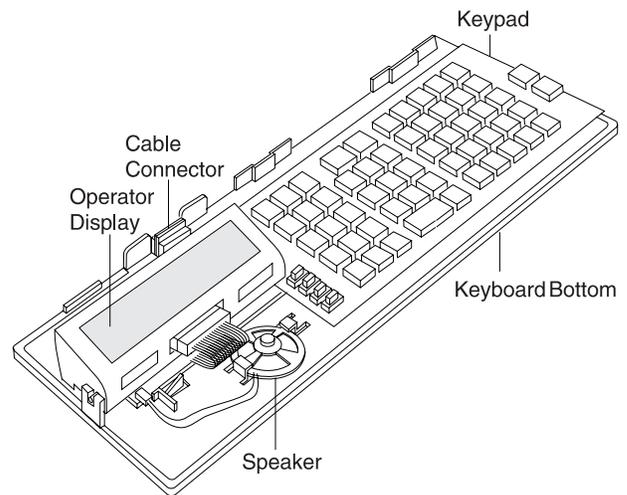

Figure 4-11. Removing the Display
- 3 Disconnect the cable from the display. See Figure 4-11 on page 4-19.